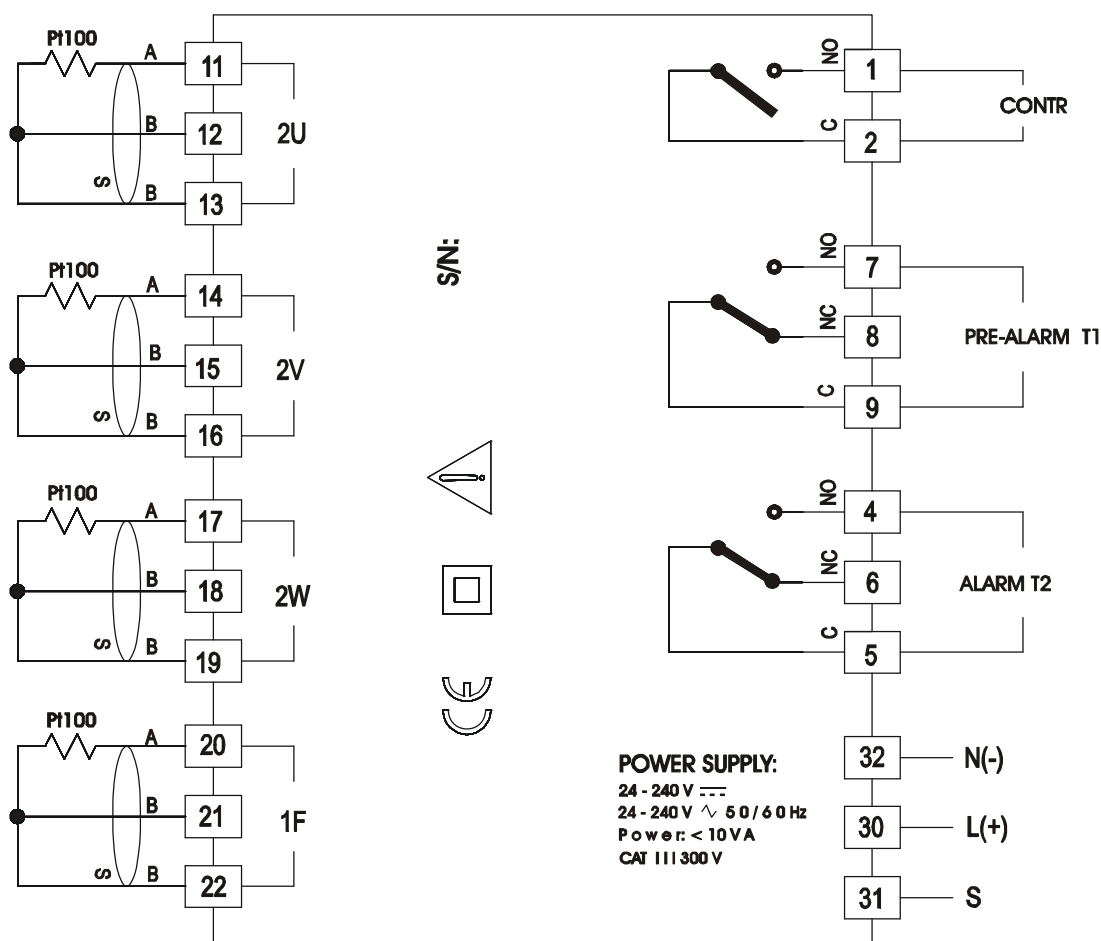

Fig. 3: electrical connections on HT950N meter
Please see the following Fig. 3 to execute all electrical connections on HT950N meter.
- **We always recommended to connect of each Pt100 to use a shielded cable with shield connected from meter front only. Connect at S terminal (31) the shield of each thermoresistance, like shown on Fig. 3.**